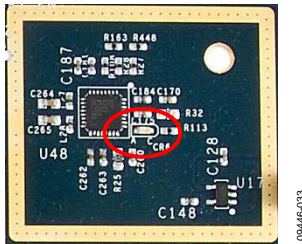

Figure 33. ADF4350 Placement
A photo of the ADF4350 placement is shown in Figure 33. The input to the ADF4350 is the 26.0 MHz output from the second ADF4002 (2) PLL. The ADF4350 has an integrated VCO and can produce outputs from 137.5 MHz to 4400 MHz. The primary output of the ADF4350 goes to the Rx passive mixer (LO input 1). When the ADF4350 is locked, CR6 is illuminated.